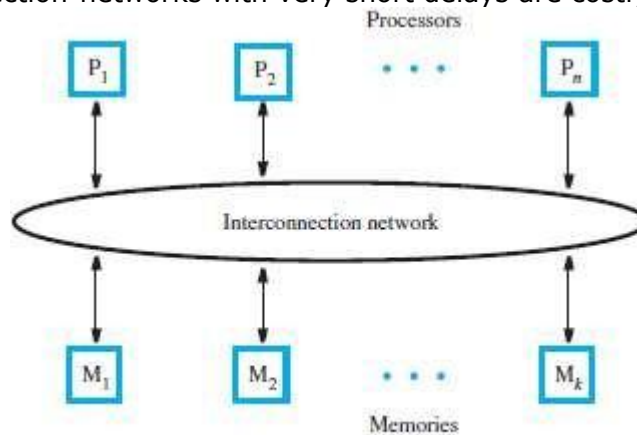

Figure 12.2 A UMA multiprocessor.
- An interconnection-network permits n processors to access k memories (Figure 12.2).